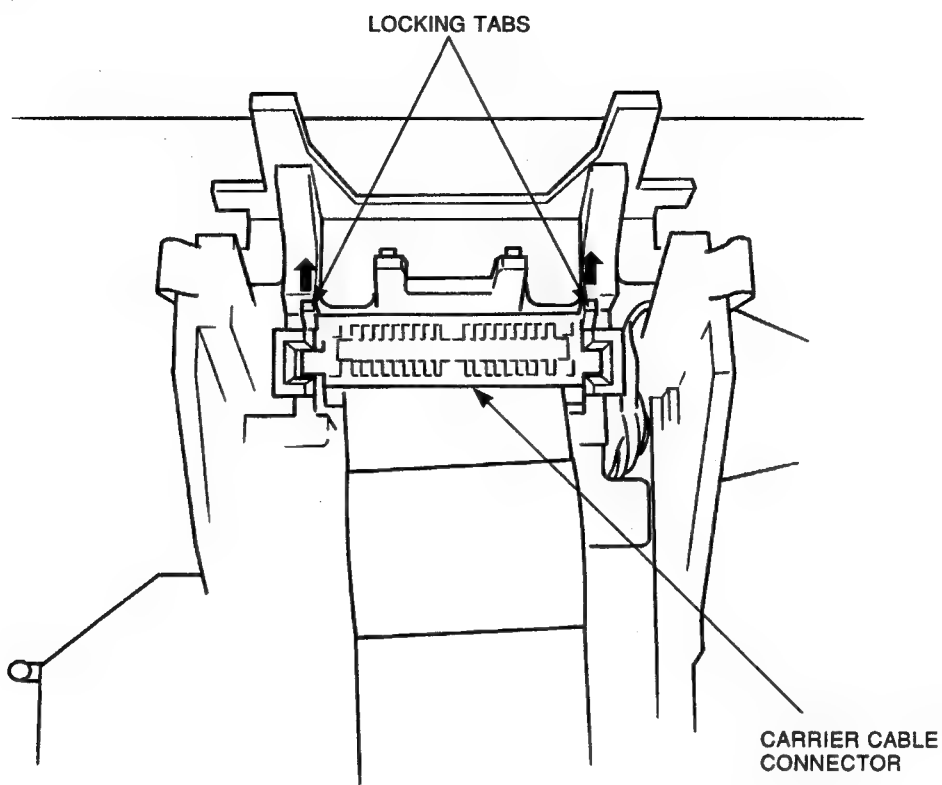

Figure 3-11 Carrier Cable Connector
6. With a screwdriver blade, press the two locking tabs out as far as possible to release the connector from the carrier and lift the connector out of the printer (see Figure 3-11).